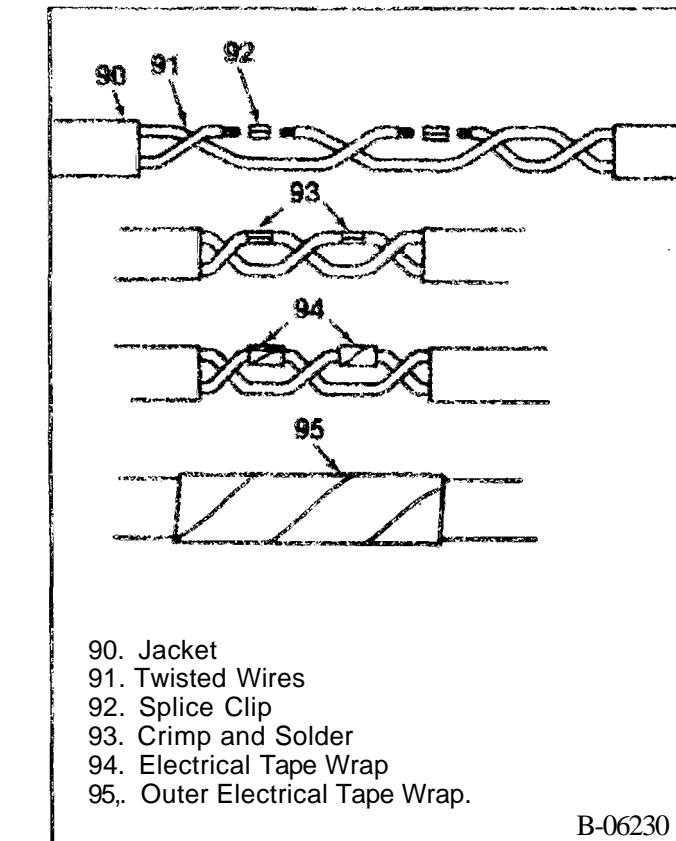

Figure 20 Twisted Wire Repair
4. Terminal (138) by inserting J-35689 (139) into the connector body (137) to depress the locking tang (138), then push the wire and terminal through the connector body (figure 20).
5. 5mm (0.2-inch) of the wire insulation (130).
Twisted Wires (Figure 20)